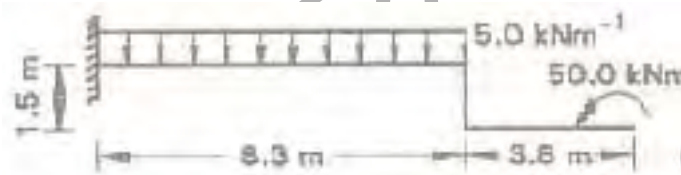

Figure 7
7. Develop Bending moment and Shear force for the figure 7 given below indicating the maximum and minimum values.